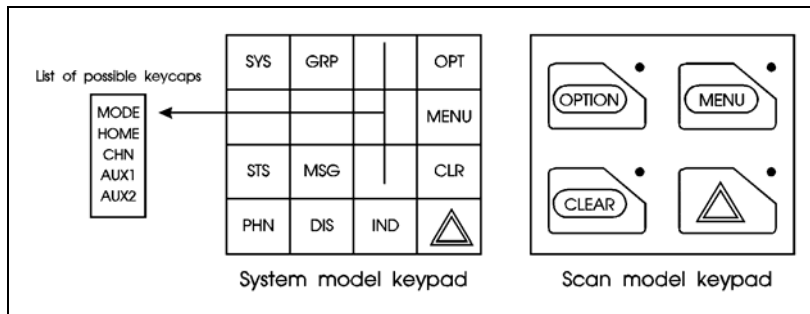

Figure 8-3: Standard M7100IP Keycaps Configuration
The Standard keycap package for the System radio includes five (5) labeled keycaps (MODE, HOME, CHN, AUX1 and AUX2) and six (6) blank keycaps, which can be placed on any of the five key locations (numbers 3-6 and 9) shown in Figure 8-3. The keycap represents the primary function programmed for that key location. See Section 8.7.3 for a description of the primary function associated with these five (5) keycaps.